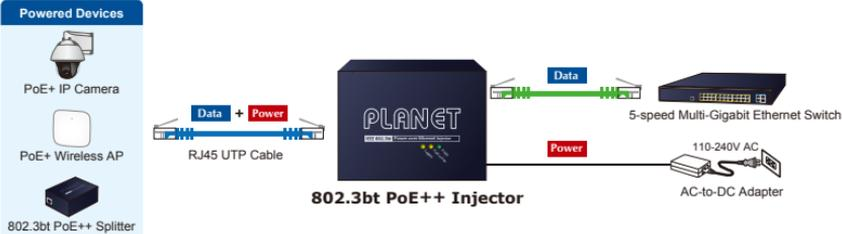

Figure 3: Architecture of Connected IEEE 802.3af/at/bt Devices
4. The POE-171A series/POE-176-95, adopting the IEEE 802.3af/at/bt technology, can directly connect with any IEEE 802.3af/at/bt end-nodes, such as PTZ (pan, tilt & zoom) network cameras, PTZ speed dome cameras, color touch screen, Voice over IP (VoIP) telephones and multi-channel wireless LAN access points as the screen in Figure 3 is shown below.